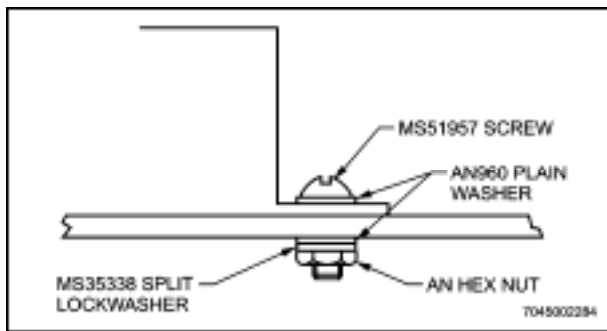

Figure 15-6 Mounting Protective Devices
32. When possible, attach protective devices to aircraft structure or other support with through bolts or screws. Install a plain washer under the head of the bolt or screw, and a plain washer and a split lockwasher under the nut. (See Figure 15-6.)